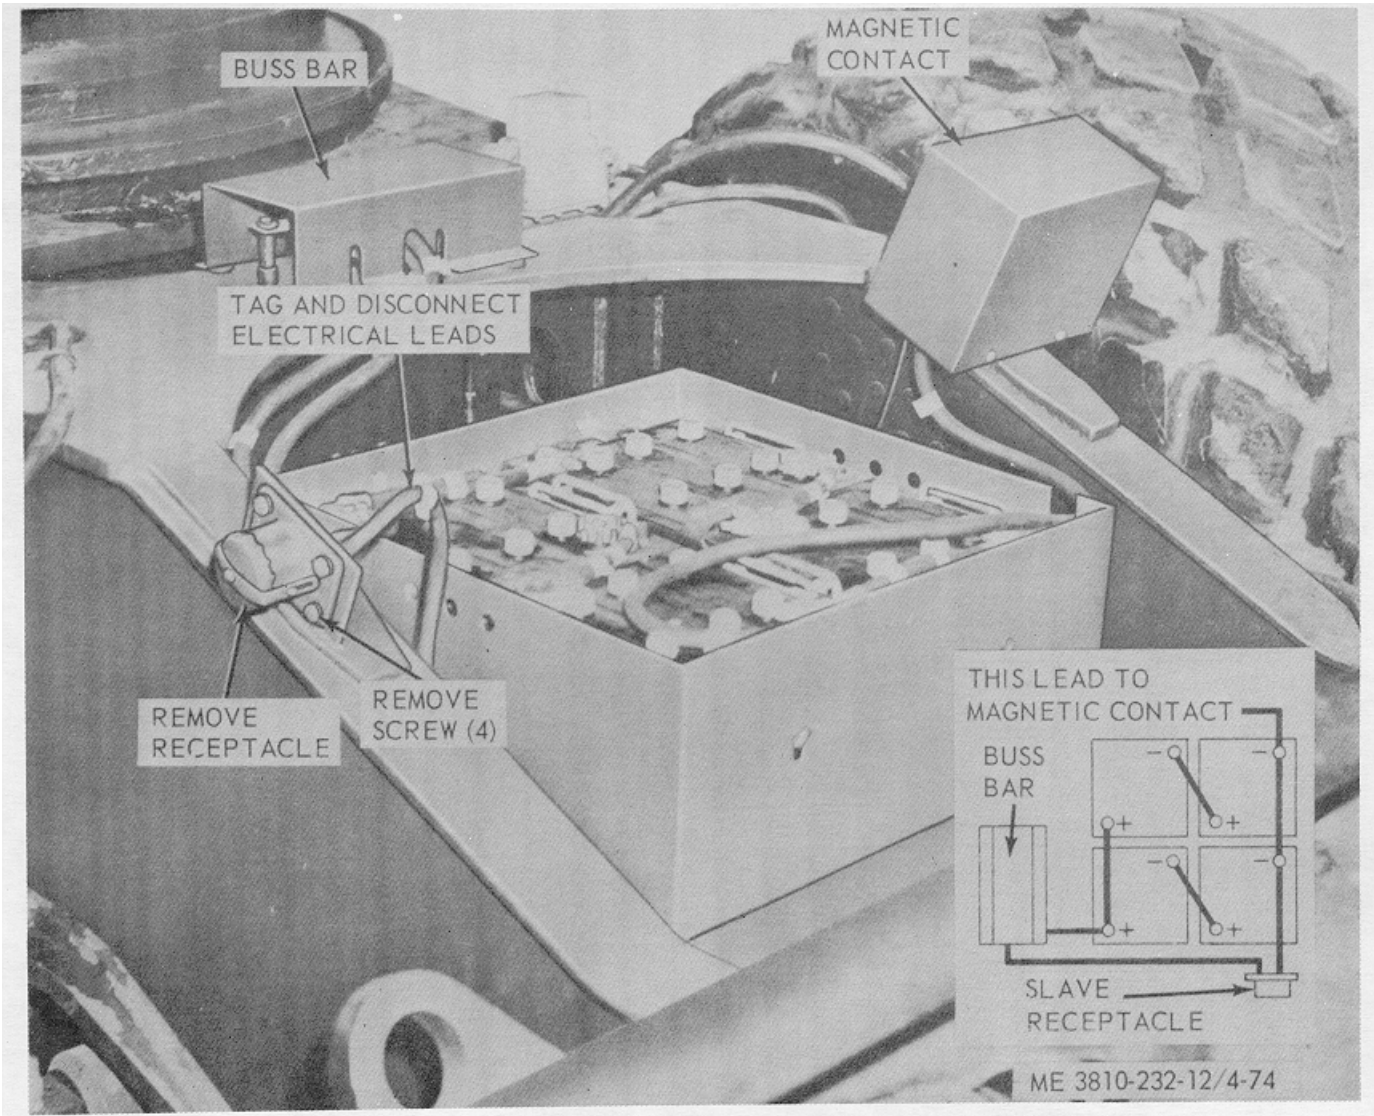

Figure 4-74. Carrier slave receptacle, removal and installation. (Model 2385).
a. *Removal.* Remove slave receptacle as illustrated in figure 4-74.
b. Installation. Install slave receptacle as illustrated in figure 4-74.